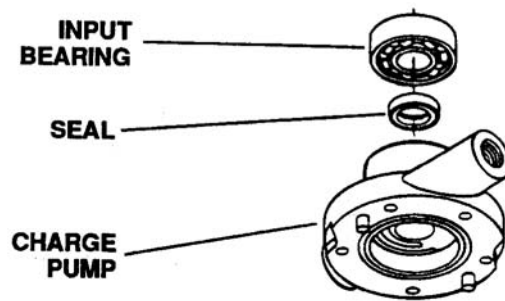

Figure 6-108. Removing Bearing and Oil Seal From Charge Pump
- e. Remove the bearing and the oil seal from the charge pump. Discard the oil seal. See Figure 6-108.